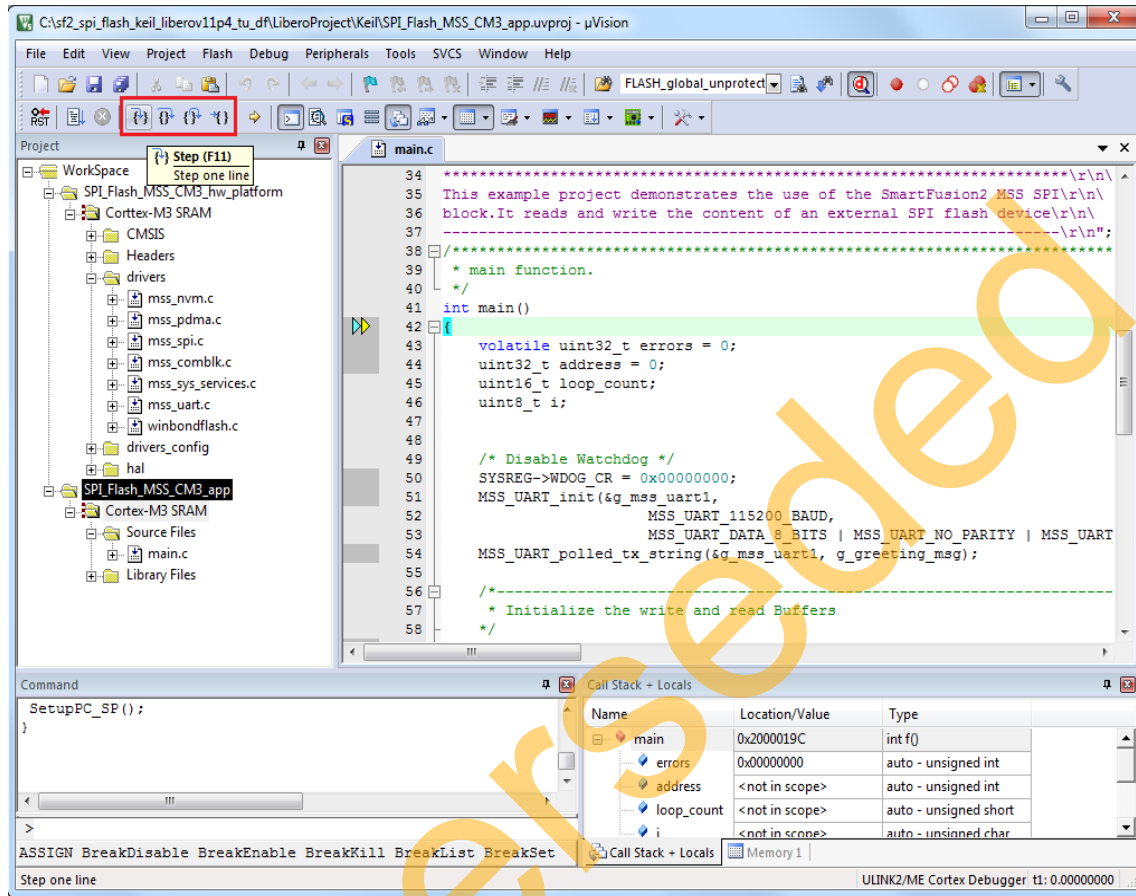

Figure 45 • Keil uVision Workbench - Step Level Debugging
5. The Step Level Debugging can be performed before running the application using **Run**. These can be accessed from the Debug menu or on the Keil uVision workbench as shown in Figure 45:
- Source code can be single-stepped by selecting from the Debug menu **Debug > Step, Debug > Step Over, Debug > Step Out** or by selecting the respective options from the Keil uVision workbench as shown in Figure 45. Observe the changes in the source code window and Disassembly section. Performing a step over provides an option for stepping over functions. The entire function is run but there is no need to single-step through each instruction contained in the function.